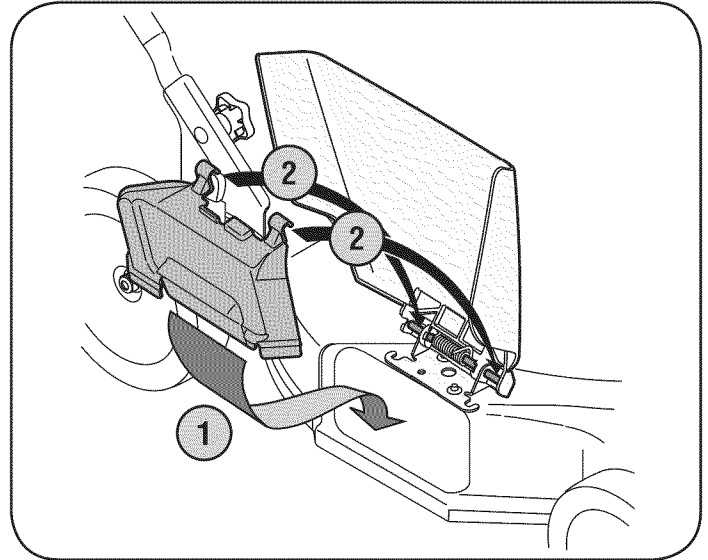

Figure 6
1. Lift up and hold the side discharge cover and insert the bottom lip of the mulching baffle inside the chute opening. See Figure 6.